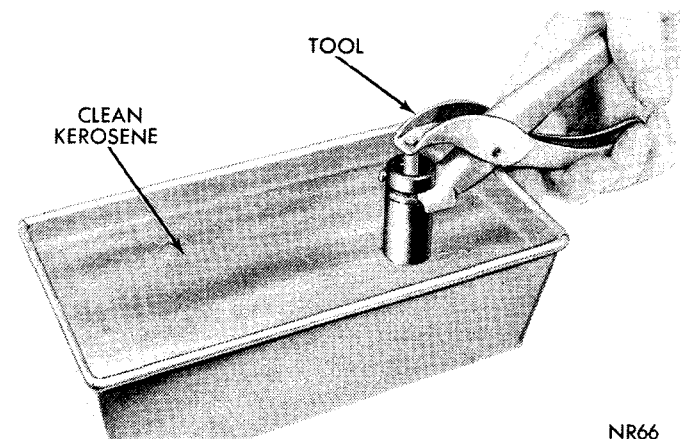

Fig. 17—Testing Hydraulic Tappet
- (1) Fill a pan with clean kerosene.
- (2) Remove cap from plunger and completely submerge tappet in an upright position.
- (3) Allow tappet to fill with kerosene, and replace the cap.
- (4) Hold tappet in an upright position and insert lower jaw of pliers, Tool C-3160, in groove of tappet body (Fig. 17).
- (5) Engage jaw of pliers with top of tappet plunger.
- (6) Check leakdown by compressing pliers. If plunger collapses almost instantly as pressure is applied, disassemble tappet, clean and test again.